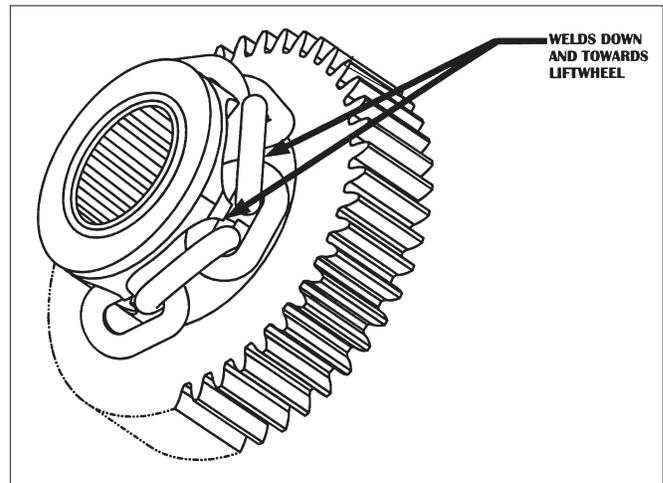

Figure 16 - Chaining Hoist
3. Feed a short length of soft wire through the opening in the chain guide/stripper until it comes out of the hoist. Attach "new" chain to end of the wire which is in the center of the hoist. Position the chain so that the welds will be down and towards the liftwheel as shown above in Figure 16.